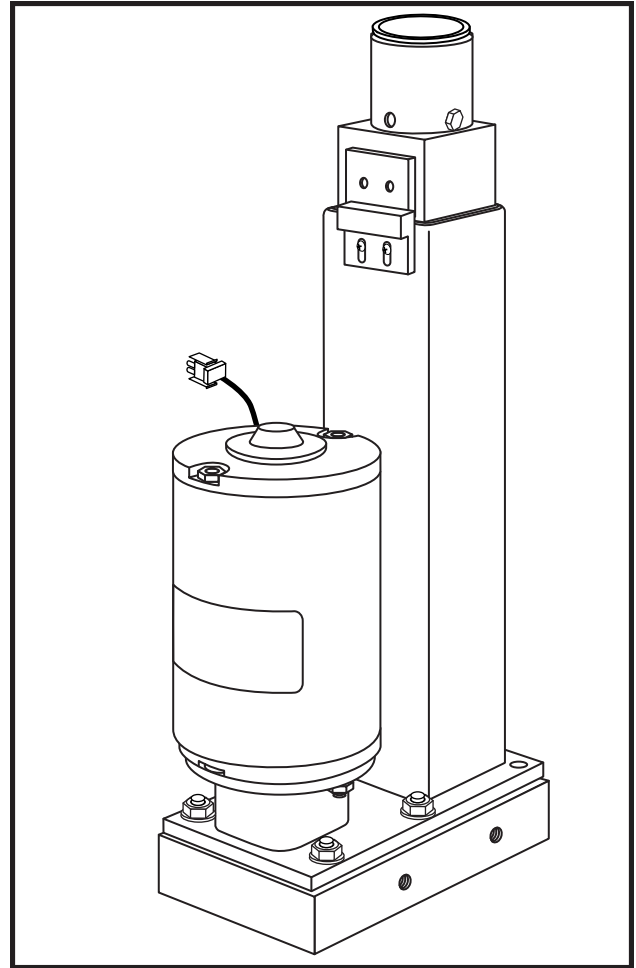

Figure 17. Power Elevating Seat Actuator
1. Align the seat shaft to the hole in the actuator. See figure 17.